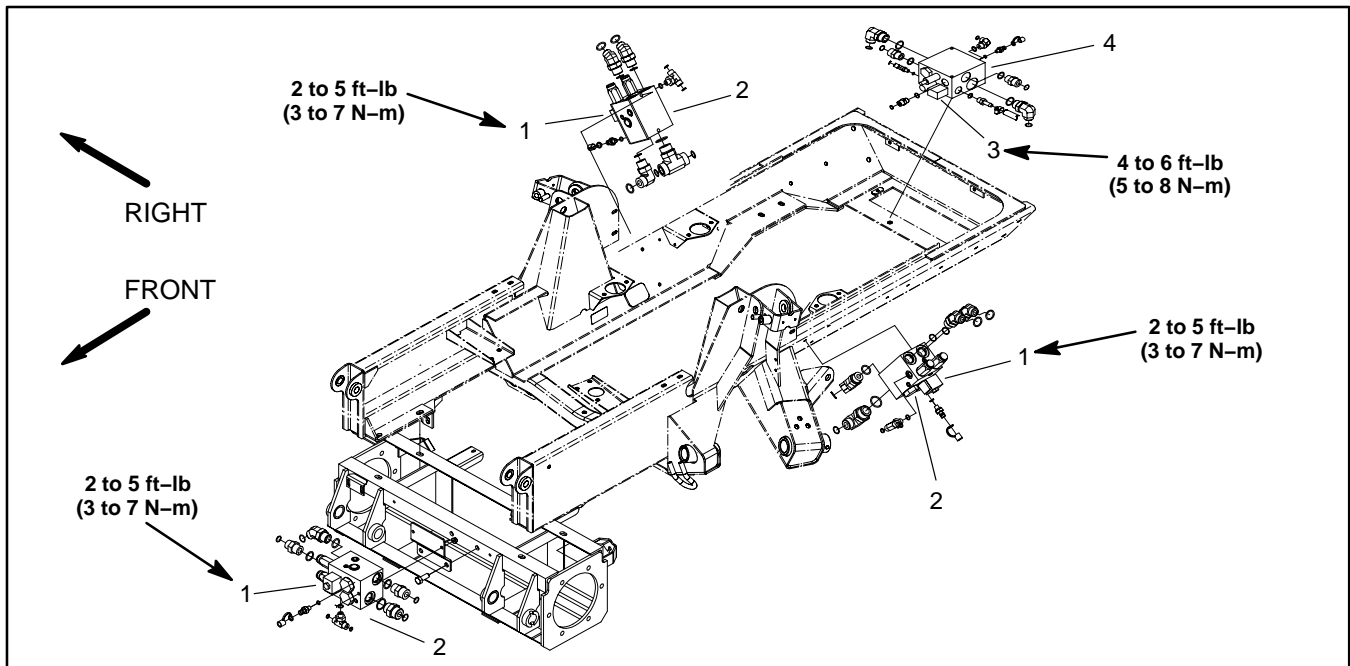

Figure 23
There are four hydraulic valve solenoids on the Groundmaster 4000-D (Fig. 23). Testing of these solenoids can be done with the solenoid on the hydraulic valve.
- B. Torque solenoid nut to specification identified in Figure 23. Over-tightening may damage the solenoid or cause the valve to malfunction.